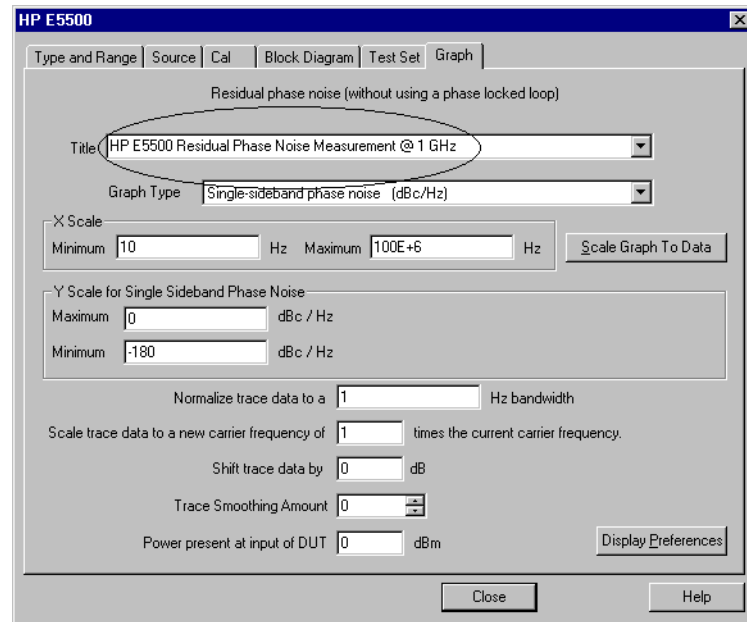

Figure 9-7 Select Graph Description on Graph Tab
- 13 Enter a graph description of your choice (E5500 Residual Phase Noise Measurement @ 1 GHz, for example). See Figure 9-7.